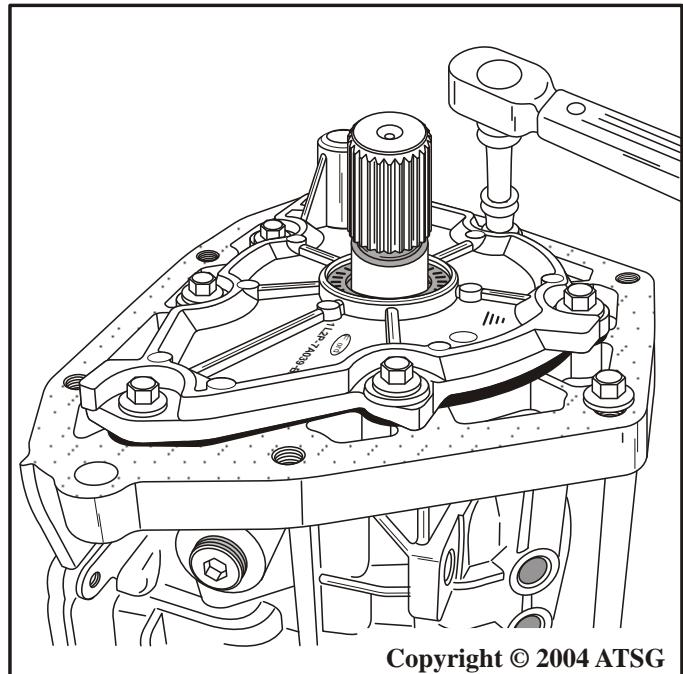

Figure 138
6. Install the seven 4WD adapter housing bolts and torque bolts to 39 N·m (29 ft.lb.), as shown in Figure 138.